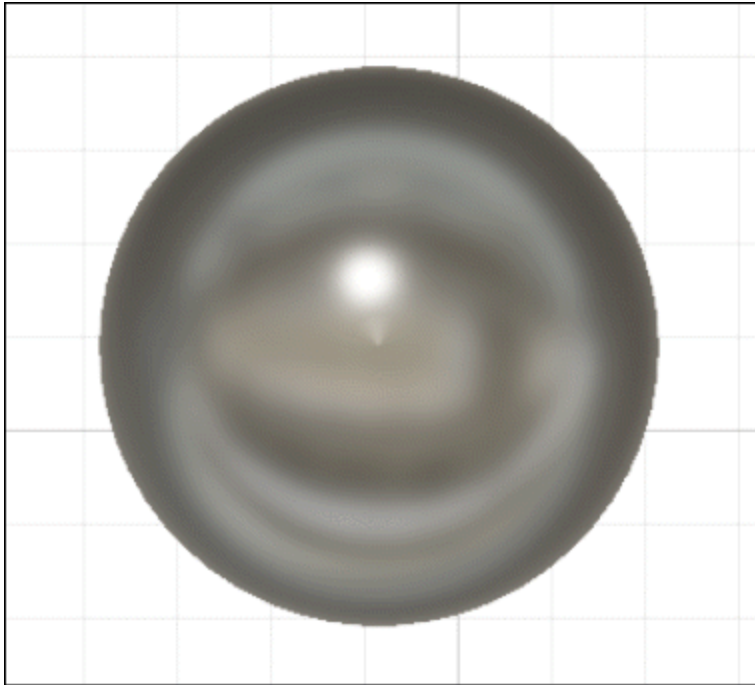

Figure-69. Sphere created
- Click **OK** button of **SPHERE** dialog box to finish the process; refer to Figure-69.